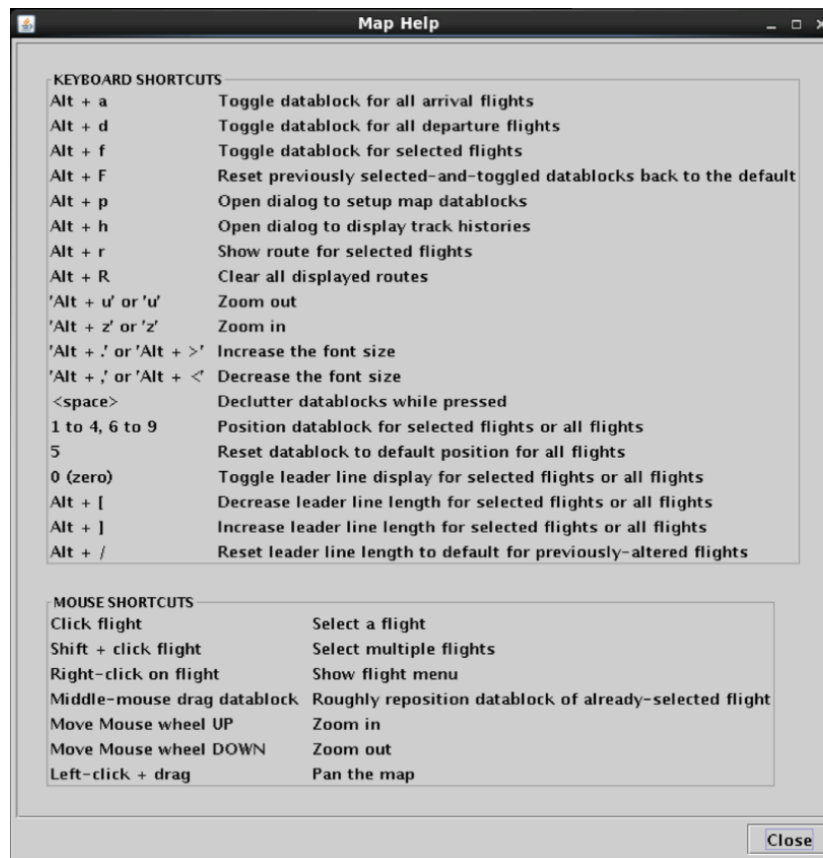

Figure 34. Map Help window.
**Step 2:** Click on “Map Help.” A window appears with a list of keyboard and mouse shortcuts for various Map functions (Figure 34).